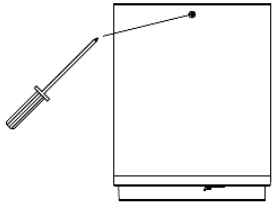

Fig. 6
1. Loosen the screws on both sides of the luminaire. Twist to unlock and remove the mounting plate. (Fig. 6)